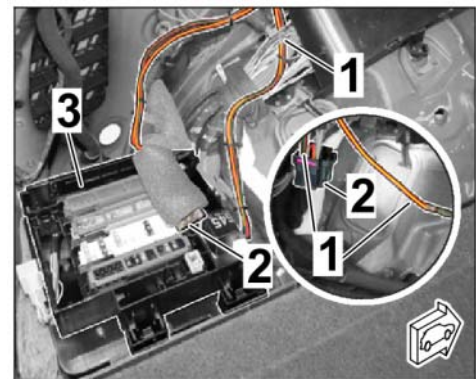

Figure 9
2.3.5 Route RD/GN and RD/YE lines to connector B (preparation). (⇒ *Figure 9*).
Release connector B, connect lines RD/GN and RD/YE as described in Step 2.3.2 (⇒ *Figure 9-inset-*).